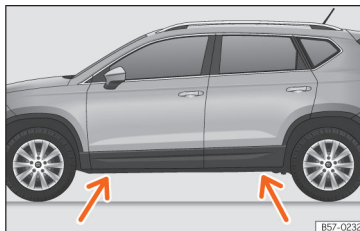

Fig. 78 Crossbar: brands.
- Find the support point on the strut (sunken area) closest to the wheel to be changed »» Fig. 78.